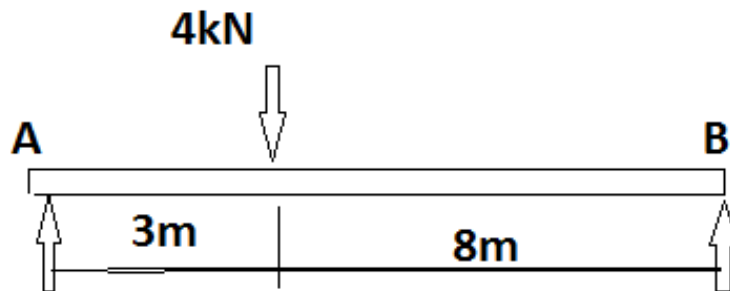

figure-6
6. Using the principle of Virtual work, Determine the reactions at A and B for the beam shown in figure-6.